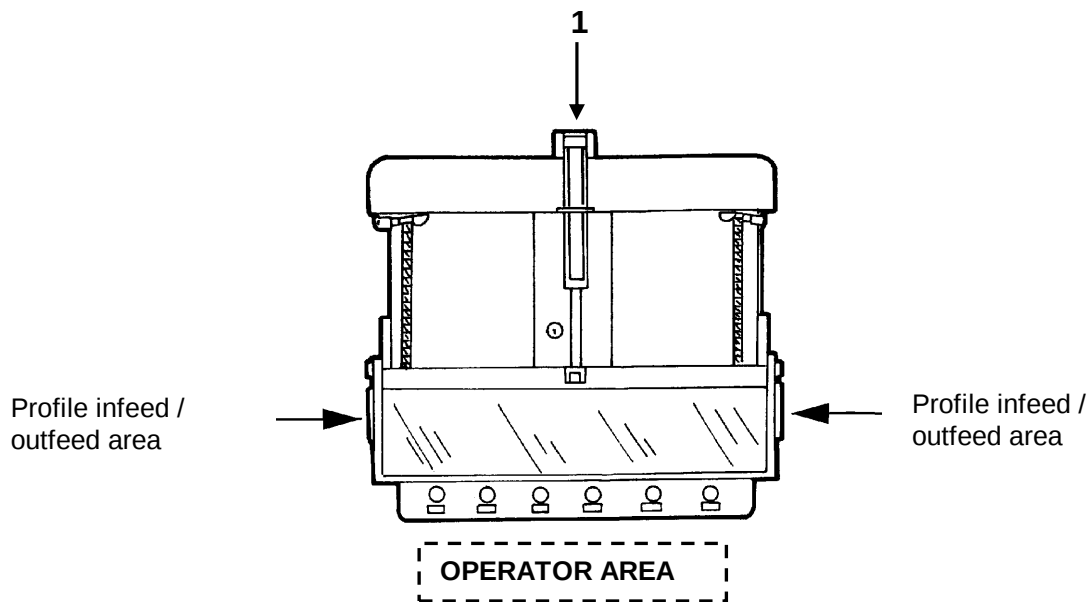

Fig. 04-01
4.5 RISK AND RESIDUAL RISK AREAS (Fig. 04-01)